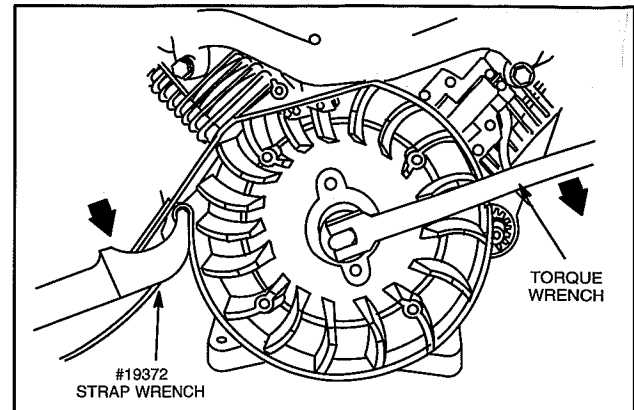

Fig. 10 – Torque Flywheel Nut
2. Place flywheel strap wrench, Tool #19433 around outer rim of flywheel, Fig. 10.